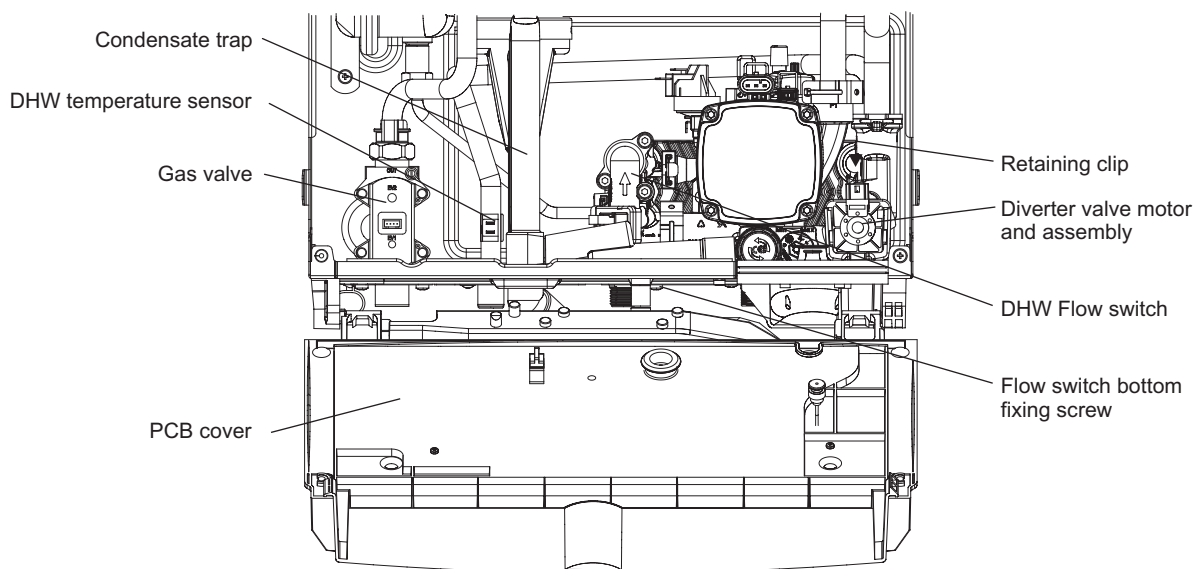

Fig. 7.2
2. Remove the three retaining screws in the PCB cover and remove cover. See Fig. 7.2.
7.10 DHW TEMPERATURE SENSOR - Fig. 7.2
1. The DHW sensor is positioned in the hot water outlet pipe to the left of the flow switch, see Fig. 7.2. Unplug the two connections and unclip the sensor from the pipe.
7.12 DHW FLOW SWITCH - Fig. 7.2
7.21 DIVERTER VALVE MOTOR - Fig. 7.2
7.22 DIVERTER VALVE CARTRIDGE - Fig. 7.2